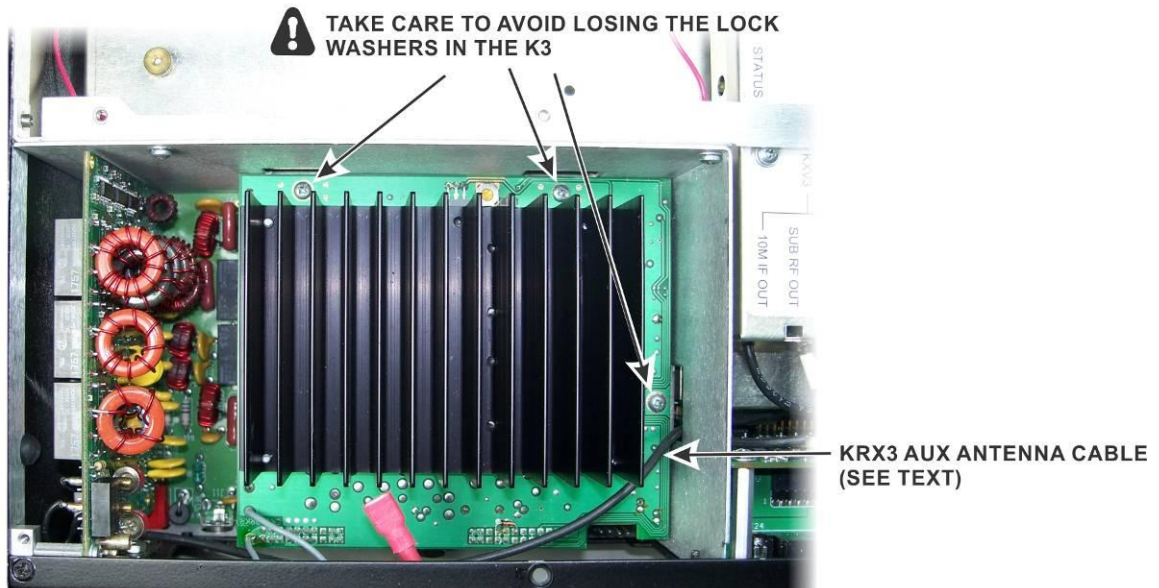

Figure 3. Removing the KPA3 Screws.
- ☐ Remove the three screws and lock washers holding the KPA3 module in place (see Figure 3)
! If you have the KRX3 sub-receiver installed and have auxiliary antenna input connected to either the KAT3 or to the rear panel AUX antenna connector, there will a coaxial cable running across the KPA3 module (see Figure 3, above). It is not necessary to remove this cable when removing the KPA3 module. If it runs to the KAT3 antenna tuner, you can unplug it from the tuner if you wish but, in any case, you can remove the KPA3 module with this cable in place. Just route the cable to the rear around the KPA3 module as you remove it, and be sure it is on top of the KPA3 when you reinstall it. You may find that excess cable is between the KRX3 module and the KIO3 board just outside the KPA3 shield area. Pull this cable into the KPA3 shield area to give you enough cable length to work with.
Secure the KPA3 module with the three 4-40, 1/4" (6.4mm) zinc pan head screws and lock washers you removed earlier (see Figure 3).